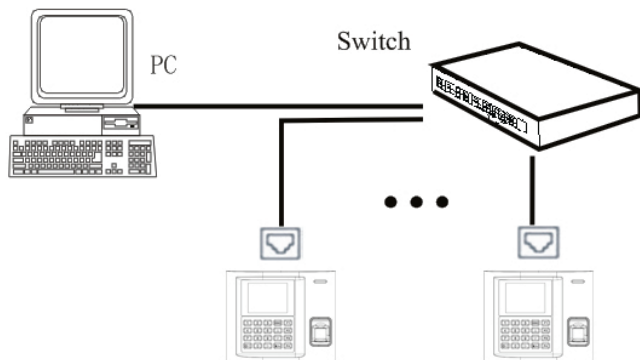

Figure 3-2
2. The device and the PC both connected to LAN/WAN through Switch/LAN switch as figure 3-2.